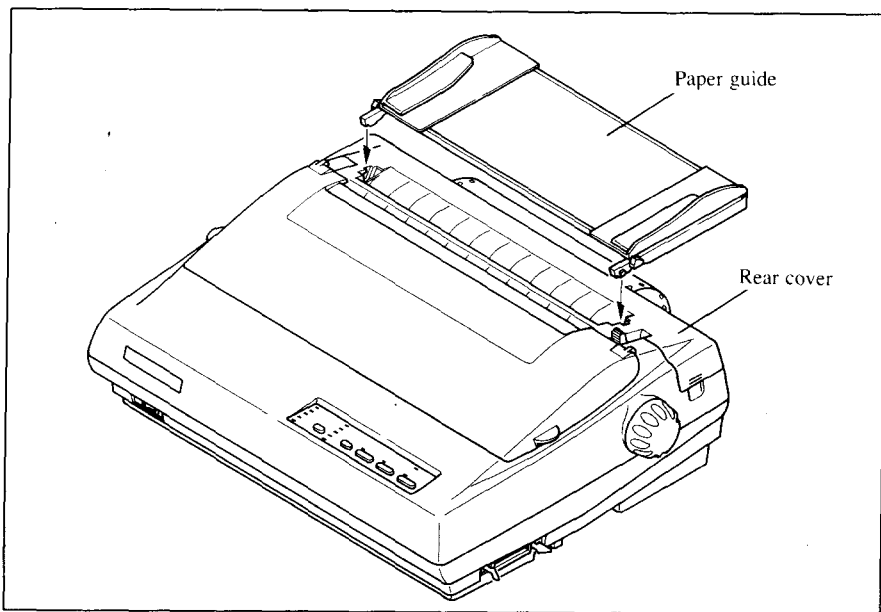

Figure 1-15. Mounting the paper guide for fanfold forms
13. Replace the rear cover, and mount the paper guide in the horizontal position shown in Figure 1-15, so that it will separate the printed from the unprinted paper.